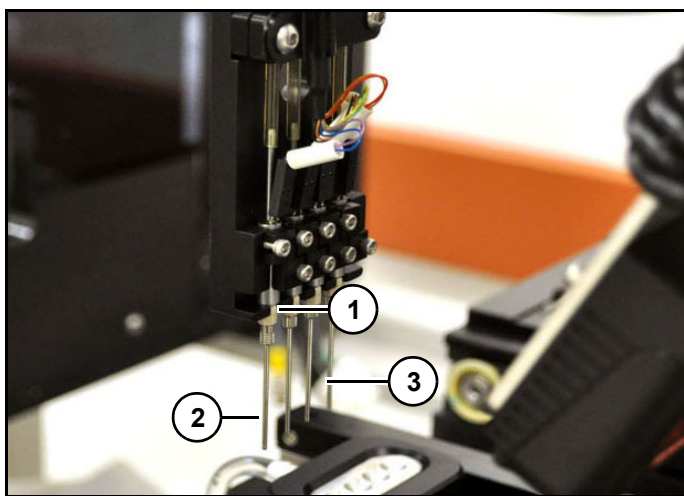

Figure 25
The plastic valve nut (1) (*Figure 25*) that holds tip is very delicate. Use caution when engaging or disengaging torque wrench to avoid damage.
When removing tips, always start with front tip (2) (*Figure 25*) to avoid damaging tips.
When installing new tips, always start with back tip (3) (*Figure 25*) to avoid damaging tips.
1. Gently loosen tip 4 (2) (*Figure 25*) by hand, turning counter-clockwise. If tip is screwed in too